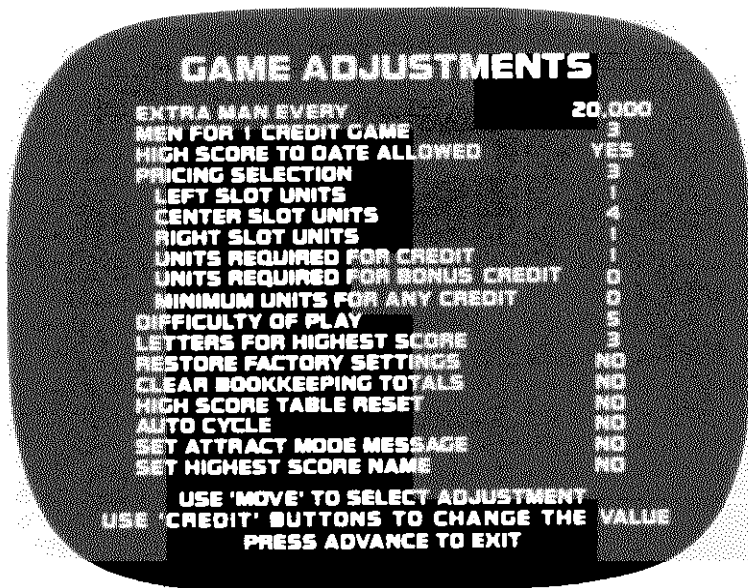

Figure 3. Game adjustments showing factory settings
2. Use the joystick to position the cursor beside CLEAR BOOKKEEPING TOTALS (Figure 3).
In the Game-Over Mode open the coin door. With the AUTO-UP/MANUAL-DOWN switch set to AUTO-UP, depress the coin door ADVANCE switch twice to cause a CRT display as shown in Figure 3.